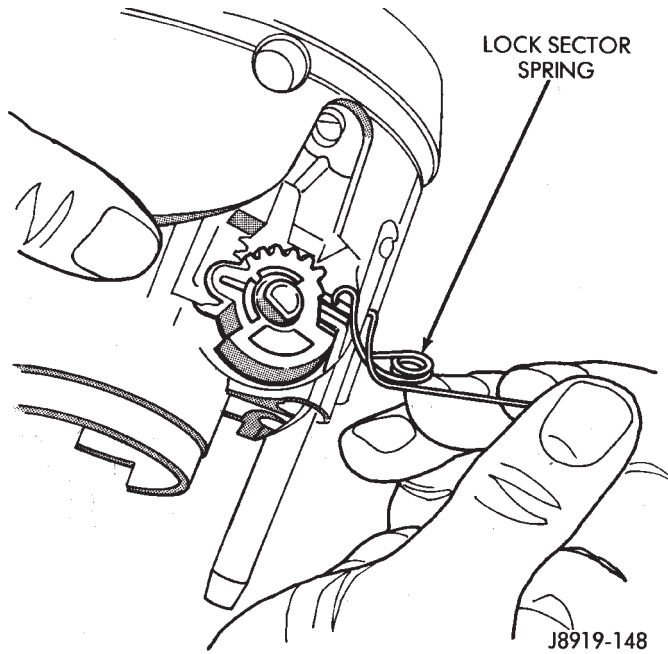

Fig. 12 Lock Sector Spring Removal
(31) Remove the lock sector spring retaining screw and then remove the spring (Fig. 12). Rotate the spring in a clockwise direction to remove it from the lock bolt.